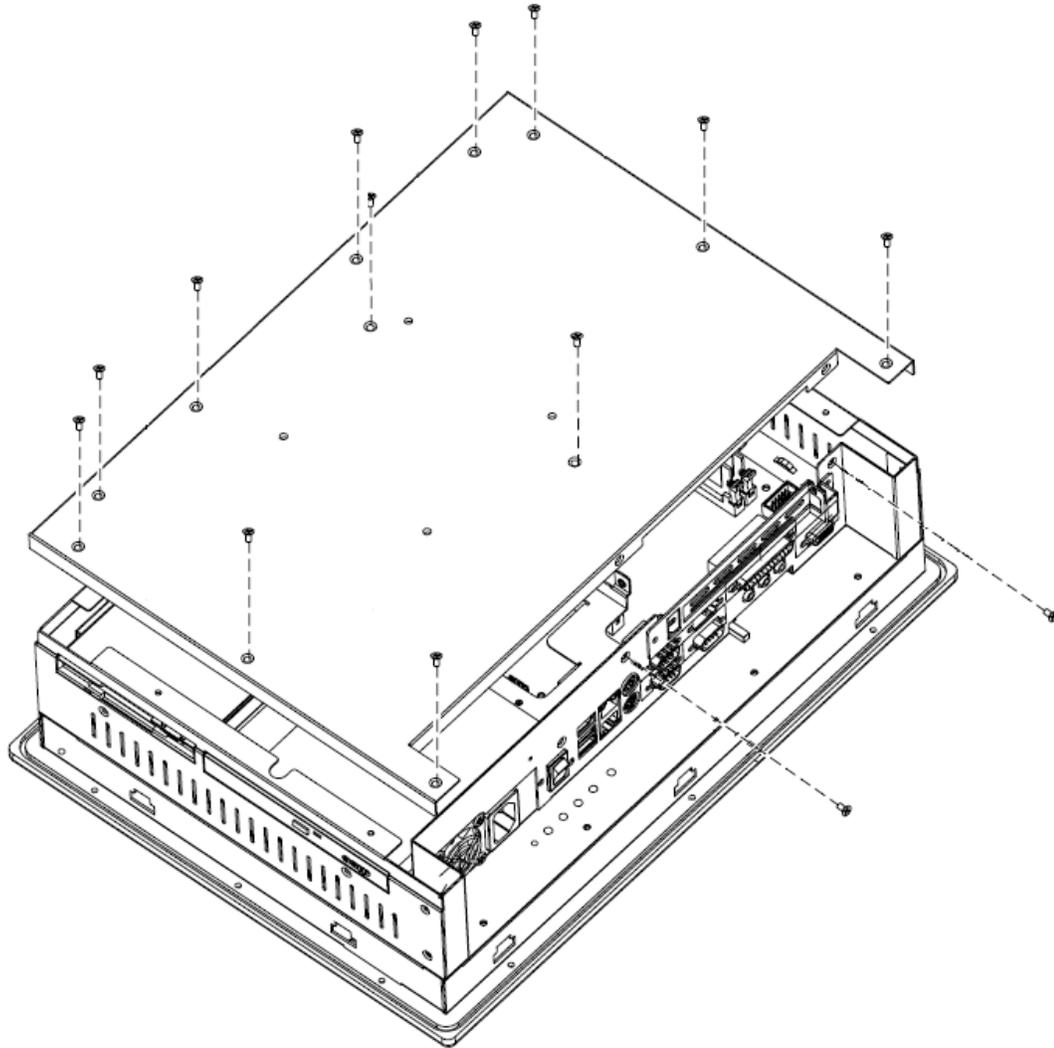

Figure 4-1: Rear Cover Retention Screws (Real Panel)
Step 2: The back cover is secured to the chassis with fourteen retention screws, eleven on the back cover and two on the bottom panel (**Figure 4-1**). Remove the retention screws and lift the cover off the PPC-5190.